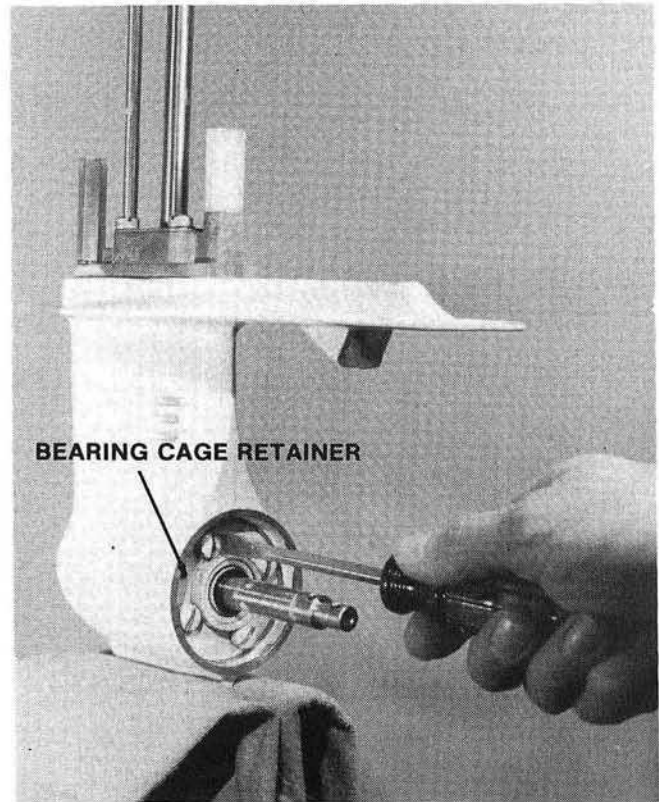

Figure 8. Installing Retainer
- B. Place bearing cage retainer in gear housing, align four holes in retainer with holes in bearing cage. Apply sealer (Special Tool T8983) to threads of screws. Install screws and tighten securely. See figure 8.